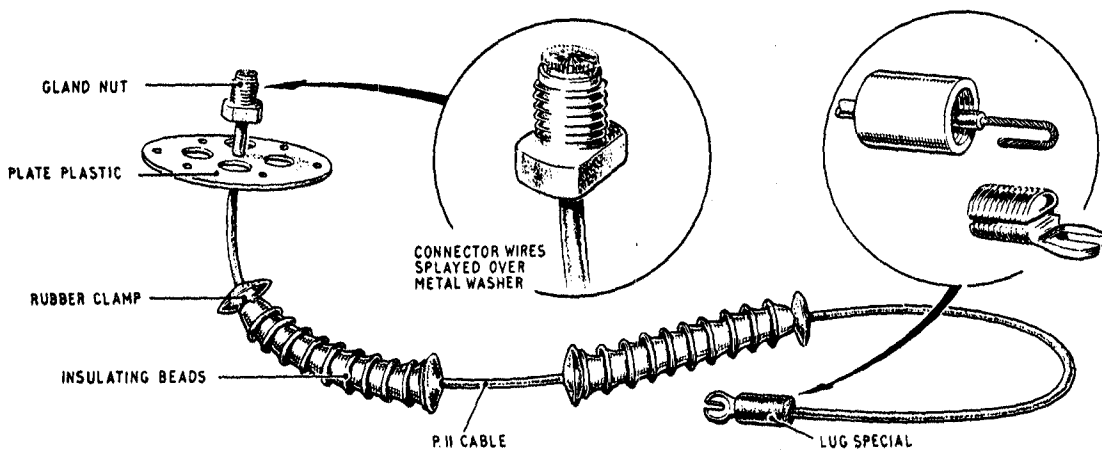

FIG. 3 MAKING THE VEHICLE ANTENNA CONNECTOR
18. Take the length of cable and strip the insulation back for 1 cm ($\frac{1}{2}$ -in.) at one end. Thread this end through the gland nut and the washer supplied with it. See fig. 3. Splay the wires out over the washer. Tuck them under it to retain them and slide the gland nut up to the washer. Screw the gland nut to the terminal inside the antenna base using the tool supplied with it.
23. At the end of the cable, strip back the insulation for 4 cm (1½-in.) and twist the wire strands firmly together. Remove the bush from the body of the lug and slip it on to the cable. Fit the wire into the groove in the side of the lug. Screw the bush firmly on to the lug to grip the wire. See fig. 3.